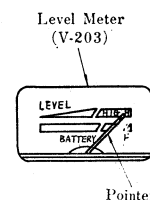

Fig. 5
1. Set power source voltage to 12V (DC).
3. Adjust 50K $\Omega$  potentiometer (R24) so that the pointer of the Level Meter stays as shown in Fig. 5.